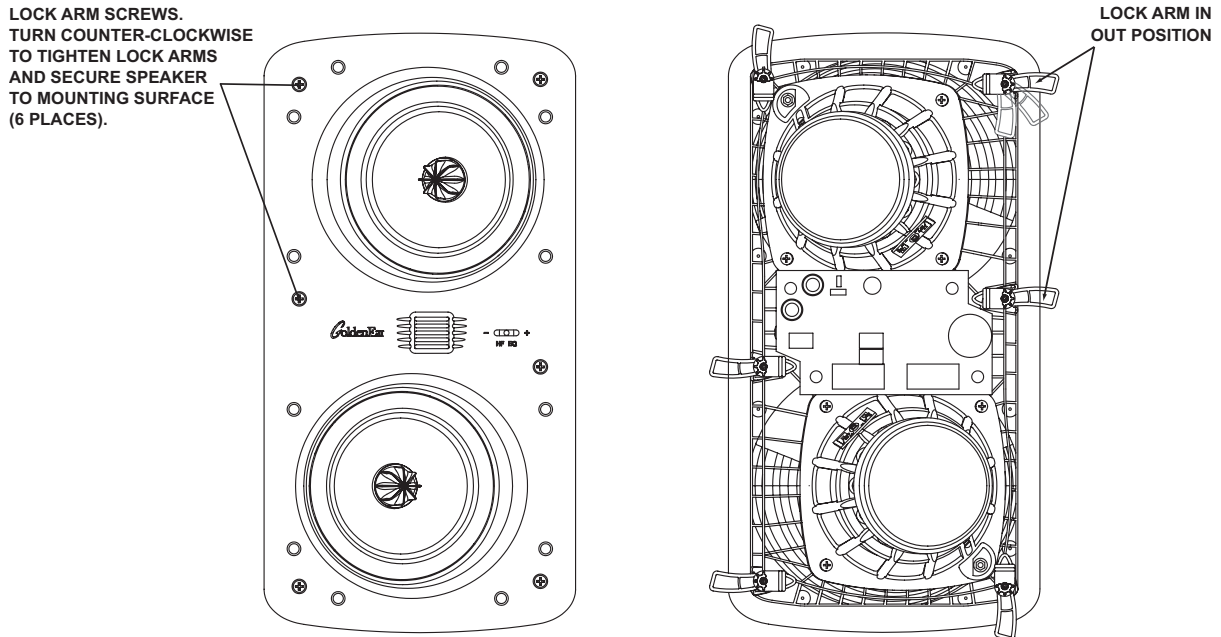

Figure 7
- While holding in place, tighten the six lock arm screws with a screwdriver (Figure 7). This will rotate the lock arms and secure the speaker to the wall/ceiling. **DO NOT OVERTIGHTEN** the lock arm screws as this could damage the drywall. If you are using a power screwdriver or drill, set the torque to a value of no more than 7 in.-lb (8dN-m).